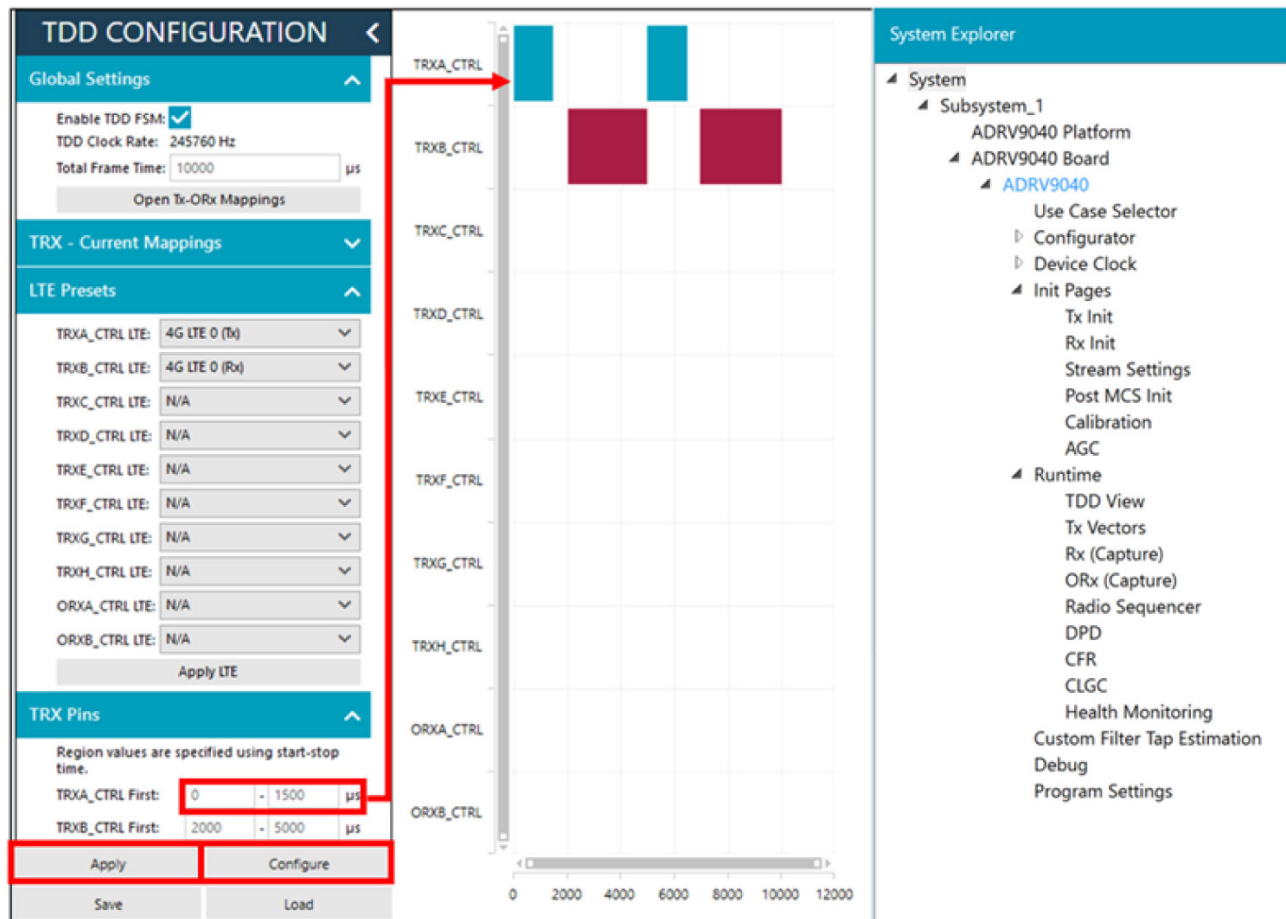

Figure 62. TDD Configuration Page Used to Specify Enable Timings for Each CTRL Pin and Configure the TDD State Machine
1. Enter start and stop times to specify a time range for driving each TRX_CTRL pin. Four start and stop time ranges can be specified per pin. LTE presets can also be applied to each CTRL pin from under **LTE Presets**. Figure 62 applies **4G LTE 0 (Tx)** preset to **TRXA_CTRL** LTE and **4G LTE 0 (Rx)** preset to **TRXB_CTRL** LTE.